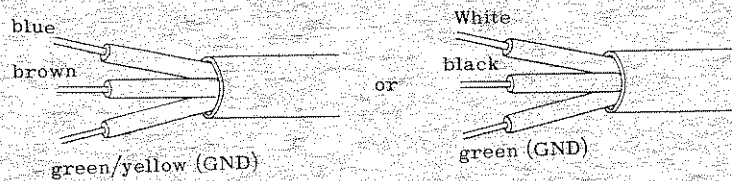

Fig. 1
- Power Cable: to 3-core cable ( See Fig. 1 for the colors )